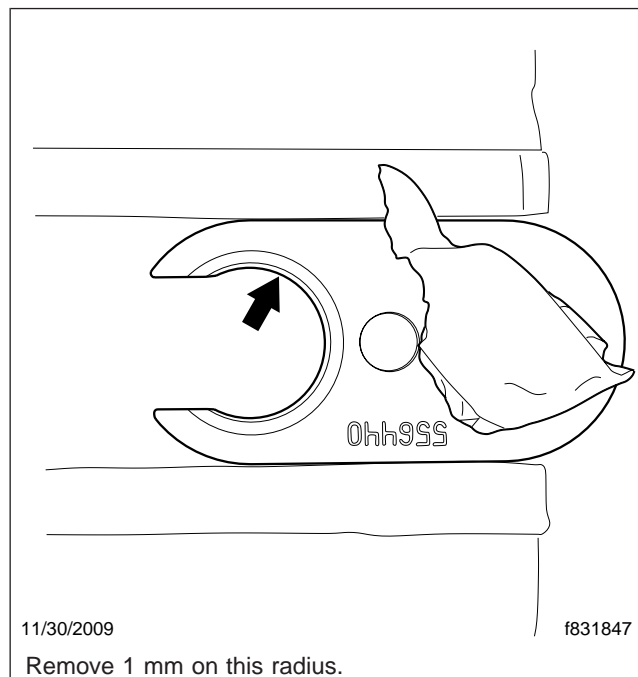

Fig. 3, Retaining Plate Modification
3. Using a suitable tool, enlarge the radius of the part of the retaining plate that surrounds the H01 line end by 0.039 inch (1mm). See Fig. 3. This is approximately the same as the chamfered edge on the inside radius of the retaining plate.